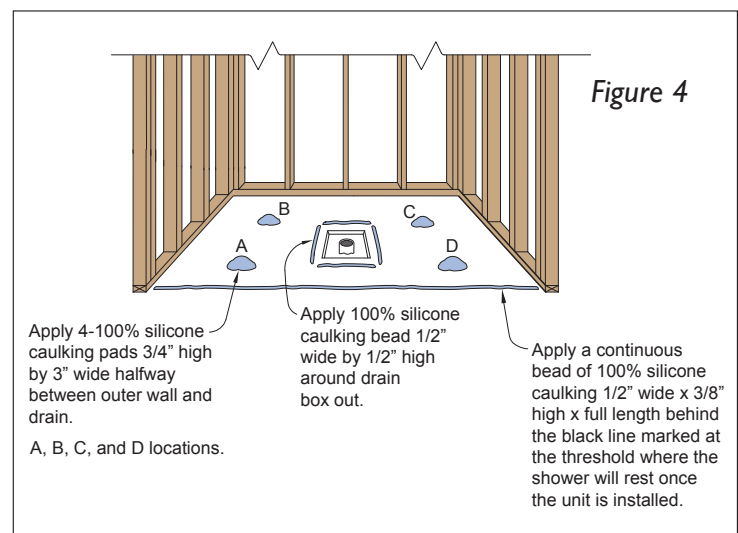

Figure 4
4. Apply 100% silicone caulking bead 1/2" wide by 1/2" high around the box out. (See Figure 4)
5. Apply 4- 100% silicone caulking pads 3/4" high by 3" wide halfway between outer wall and drain. (See Figure 4)